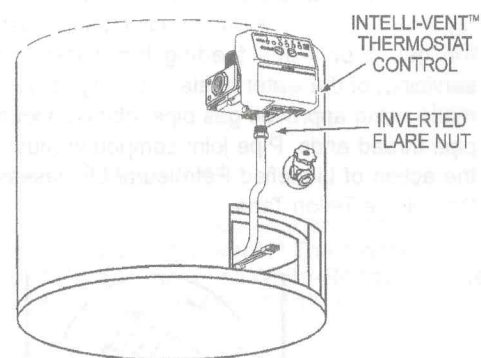

FIGURE 12.
- If your water heater is equipped with a slotted burner support located towards the back of the inside of the combustion chamber, make certain that the flat end of the burner supply tube goes into the slotted opening of the burner support and the flared end goes into the inverted flare opening of the Intelli-vent™ Thermostat Control, (184960 Series), see Figure 12.
- If your water heater is equipped with a U-shaped burner support located towards the front of the inside of the combustion chamber, make certain that the burner supply tube is positioned inside the U-shaped burner support and the flared end goes into the inverted flare opening of the Intelli-vent™ Thermostat Control, (184960 Series), see Figure 12.
16. Hand start threading the burner tube's inverted flare nut into the Intelli-vent™ Thermostat Control, (184960 Series). Use a 3/4 inch open-end wrench to tighten the nut, see Figure 12. DO NOT over tighten. DO NOT use joint compound or tape on the union connection.